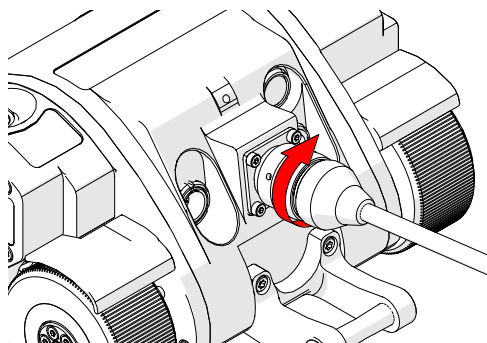

Fig. 23 - Align with crawler's umbilical mount
2. Twist the umbilical's sleeve clockwise, locking the umbilical in place (Fig. 23).